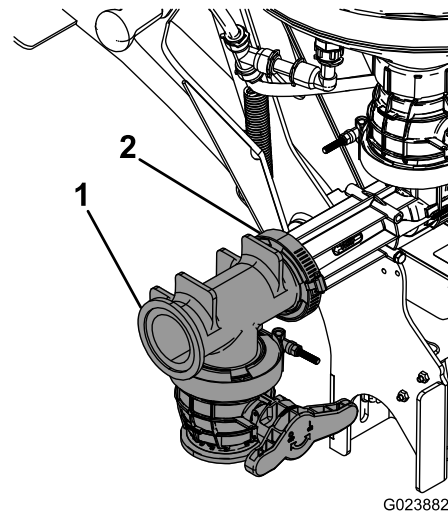

Figure 16
13. Connect the T-valve to the eductor assembly using a gasket and a worm-screw clamp (Figure 16).